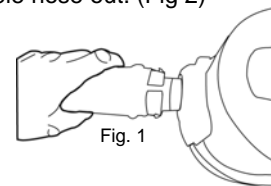

Fig. 1
1. Insert the flexible hose into the air intake duct. Push in until you hear a "click", indicating that it is locked in place. (Fig 1)